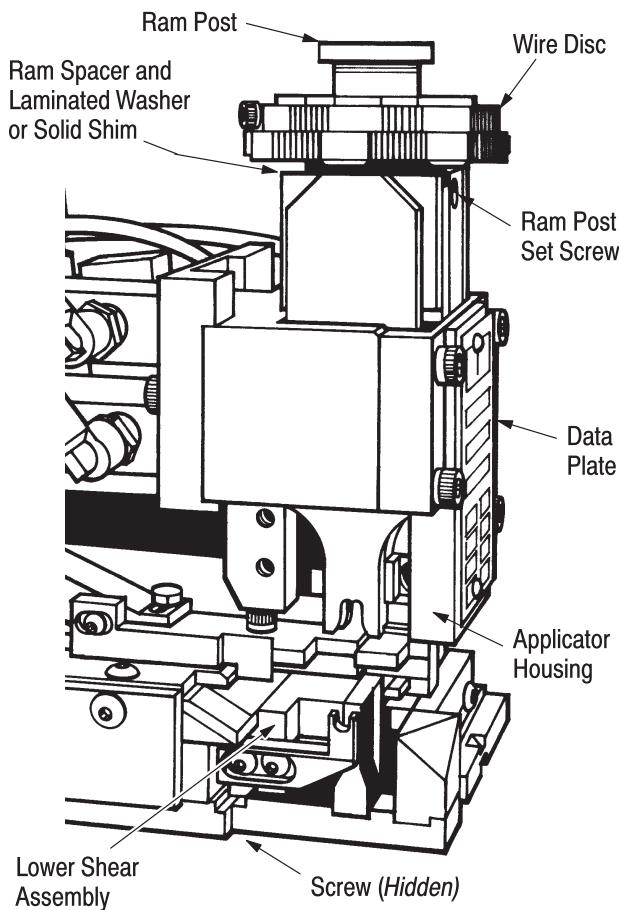

Figure 8
1. Refer to data plate, on applicator housing, Figure 8, and select pad letter (A, B, C, or D) for AWG wire size to be used.
5.4. Shear Plate Replacement (Figure 8)
3. Remove the screw securing the lower shear assembly to strip guide plate. See Figure 8.
5.5. Adjustable Crimp Height Repair (Figures 8 and 9)